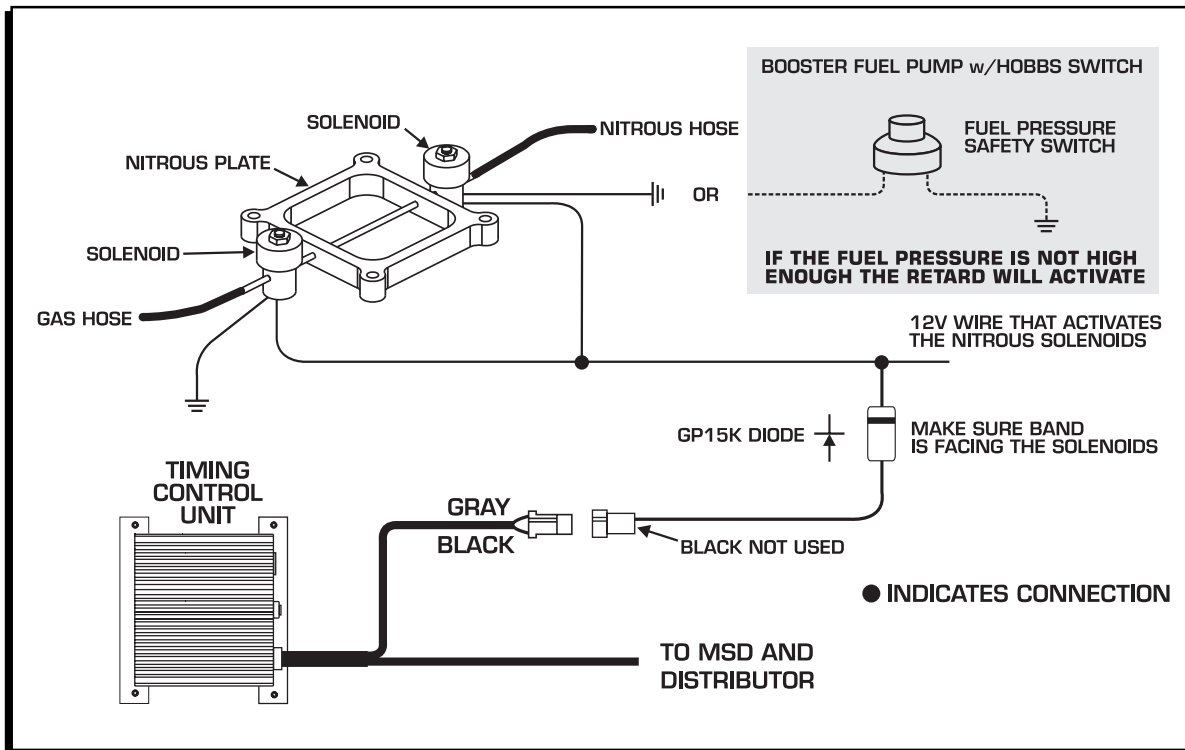

Figure 7 Activating the High Speed Retard through a Nitrous Solenoid.
1. Connect the diode to the Gray wire of the 2-pin harness. Make sure the diode is in the correct position (Figure 7).